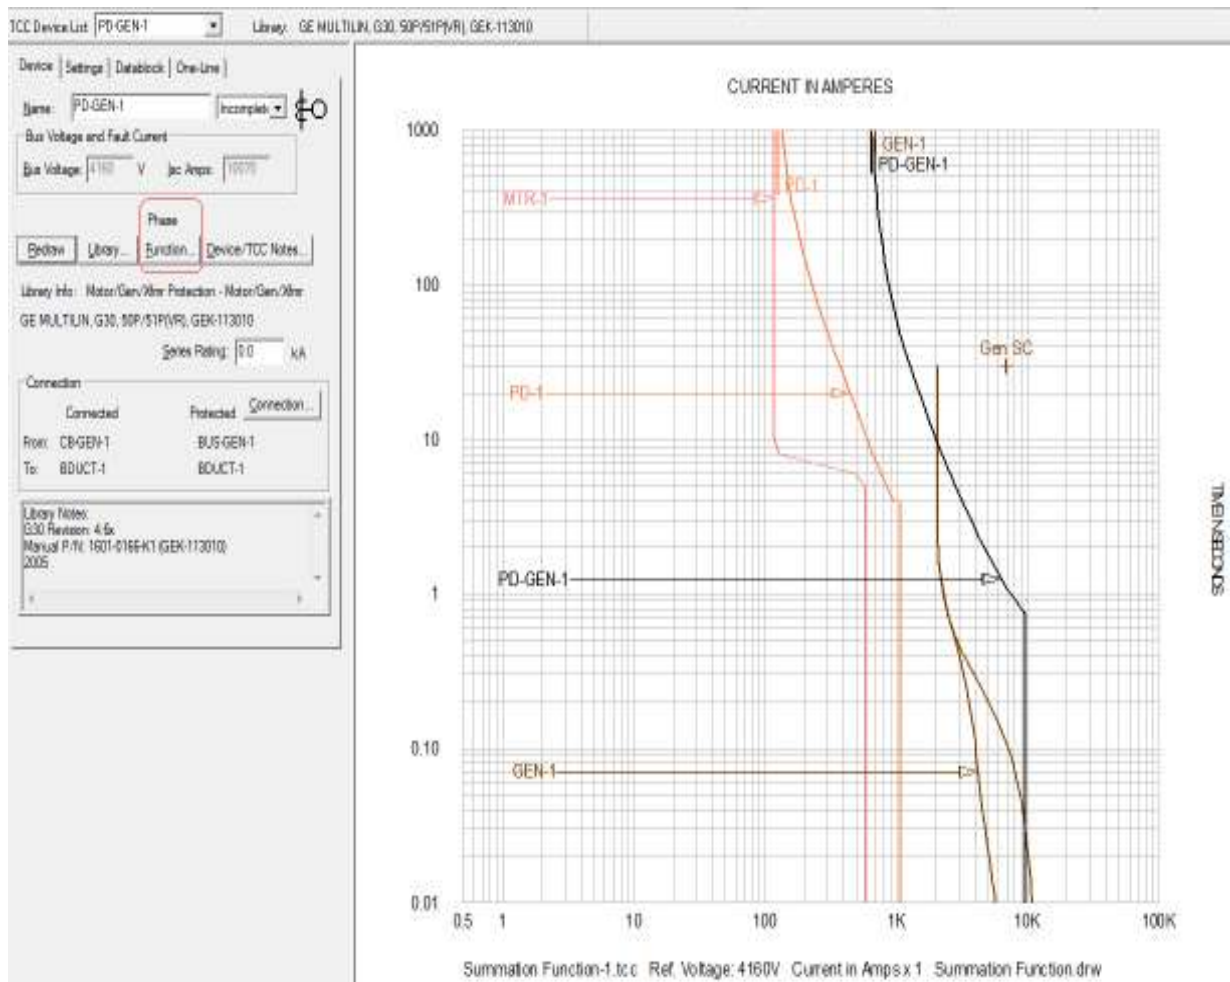

Figure 4
1. Select the PD-GEN-1 device in the Captor TCC drwing (Figure 4) then click the Function button to display the Protection Functions.